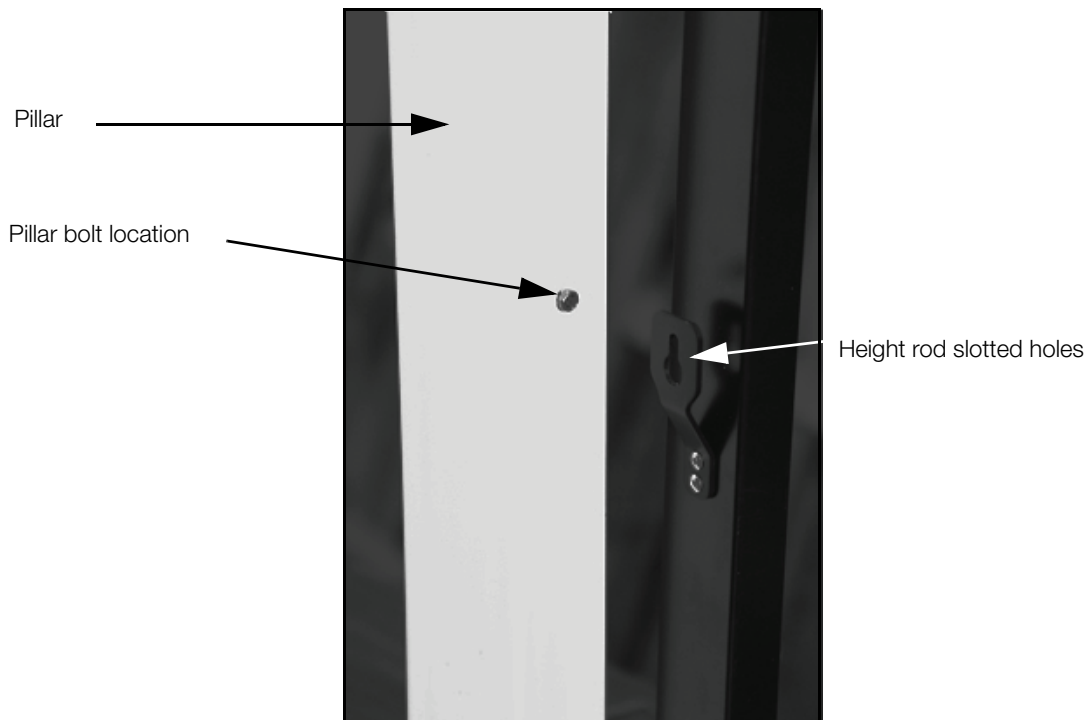

Figure 6. Attach the Slotted Screw Location onto the Pillar Bolt Location
1. Insert the back side slotted holes of the height rod into the two bolts on the front side of the pillar as shown in Figure 6. One is located at the top of the pillar and the other towards the bottom of the pillar.